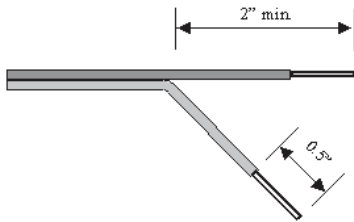

Figure 5.
2. Strip one half inch of insulation from the end of each conductor as show in Figure 5 for both connection cables.